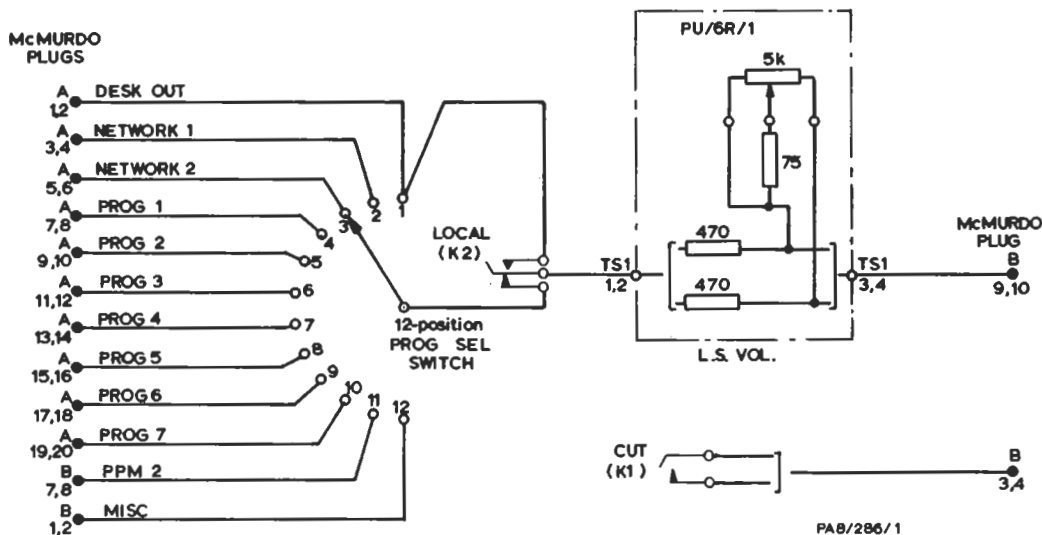

Fig. 1. Circuit of the PA8/286
Underneath this control, at the bottom of the panel, are two miniature lever-keys mounted side-by-side. They are both two-position locking keys, P.O. Type 1102. One is designated Cut and the other Local. The Cut key, when operated, puts a short-circuit across the loudspeaker input, provided that the appropriate connections have been made externally to the panel, via connector B (Fig. 1). The Local key diverts the input to the L.S. Vol. control from the moving contacts of the Prog. Sel. switch to the connections to the first (i.e., Desk Output) position on this switch; the key thus allows the Prog. Sel. switch to be overridden to monitor the Desk Output directly.
In the centre of the panel is the L.S. Vol. control, an attenuator Type PU/6R/1. This is a continuously variable 5-kilohm carbon-track component with an added resistive network as shown in Fig. 1. The panel around the control is marked with 11 dots and the
panel there are two 24-way McMurdo Red Range fixed plugs. The plug on the left as viewed from the rear is designated A and the one on the right is designated B. Connections to these plugs are shown in Fig. 1.
8. Check the connections to the other positions of the Prog. Sel. switch, using the same circuits as above, but moving the tone source connection to the appropriate tags for the various switch positions as shown in Fig. 1 and checking that there is an output as before.